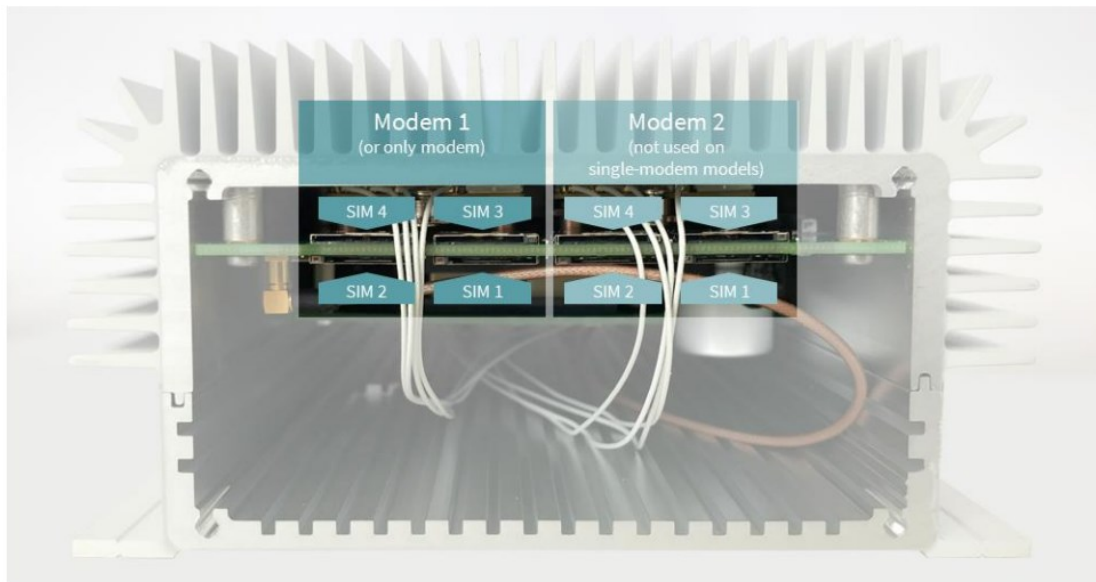

Figure 4 SIM Slot Assignment per Modem of the CyBox RT 3
3. Install the SIM cards according to Figure 4
The drawing in Figure 4 shows the SIM slot assignment per modem